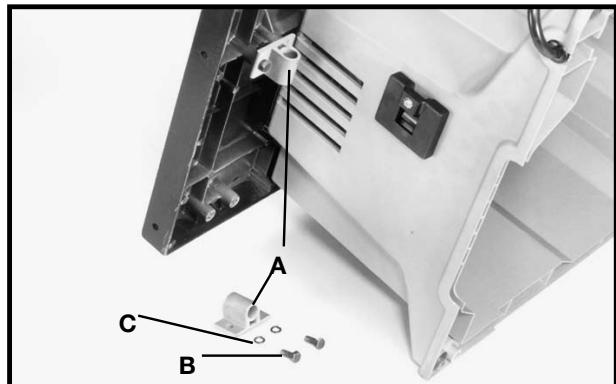

Fig. 29
1. **LOOSELY** fasten both brackets (A) Fig. 29, to the bottom left side of the saw table as shown, using two M6x1x15mm phillips hex head screws (B) and M6.1 lockwashers (C). Assemble two remaining brackets to the bottom right side of saw table in the same manner.